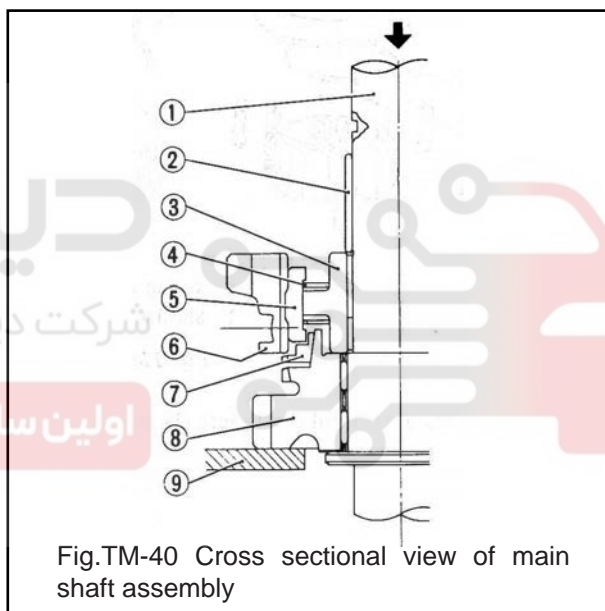

Fig.TM-40 Cross sectional view of main shaft assembly
3.As 1 st gear bushing is tightly fitted on main shaft, support the front end of 2 nd gear.Using a press, with –draw 1 st gear bushing , 1 st & 2 nd synchronizer assembly, 2 nd gear, baulk ring and 2 nd gear needle bearing. See Figure TM-40.